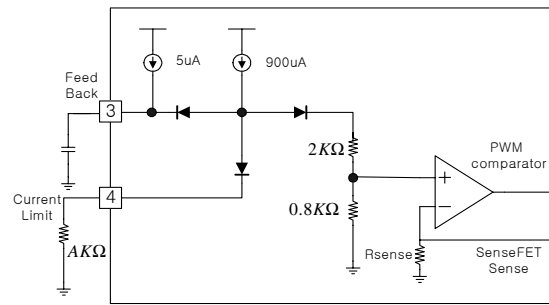

Figure 14. Peak current adjustment
8. Adjusting Current limit function: As shown in fig 14, a combined $2.8\text{k}\Omega$ internal resistance is connected into the non-inverting lead on the PWM comparator. A external resistance of Y on the current limit pin forms a parallel resistance with the $2.8\text{k}\Omega$ when the internal diodes are biased by the main current source of $900\mu\text{A}$.